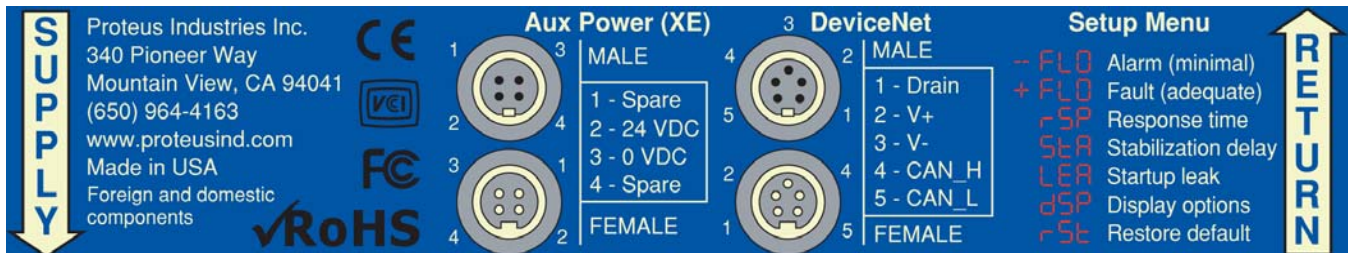

Figure 3: Wiring and Connection Diagrams
1. Refer to Figure 3 on page 20 for dimensions and fastening locations.
1. Refer to Figure 3 to identify the 24 VDC power interface connections.
2. Refer to Figure 3 to identify the DeviceNet power interface connections.